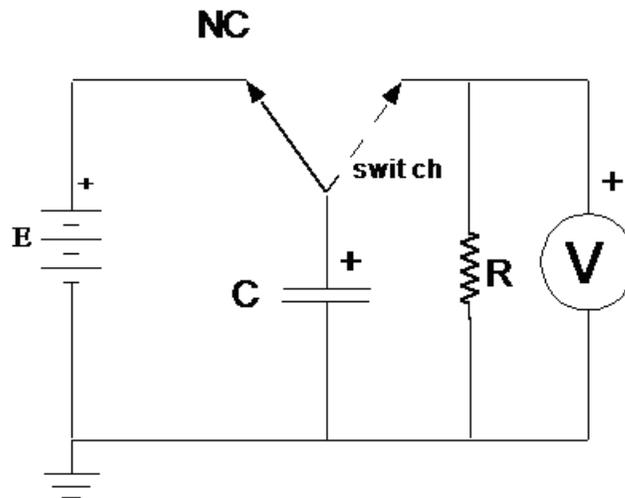

Figure 13
1. Connect the circuit in Figure 13. R represents a 68,000 ohm resistor. Set the power supply to about 19 volts, using its own voltmeter. (Do not exceed 25 volts, the rating of the capacitor.)